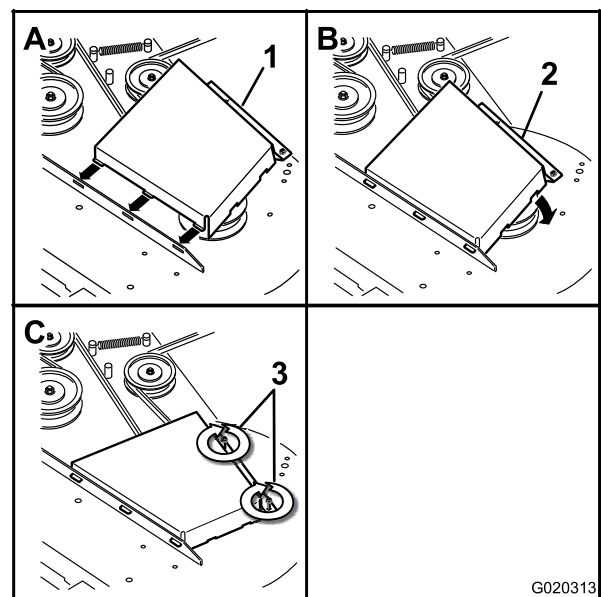

Figure 67
4. Install the belt covers (Figure 67).